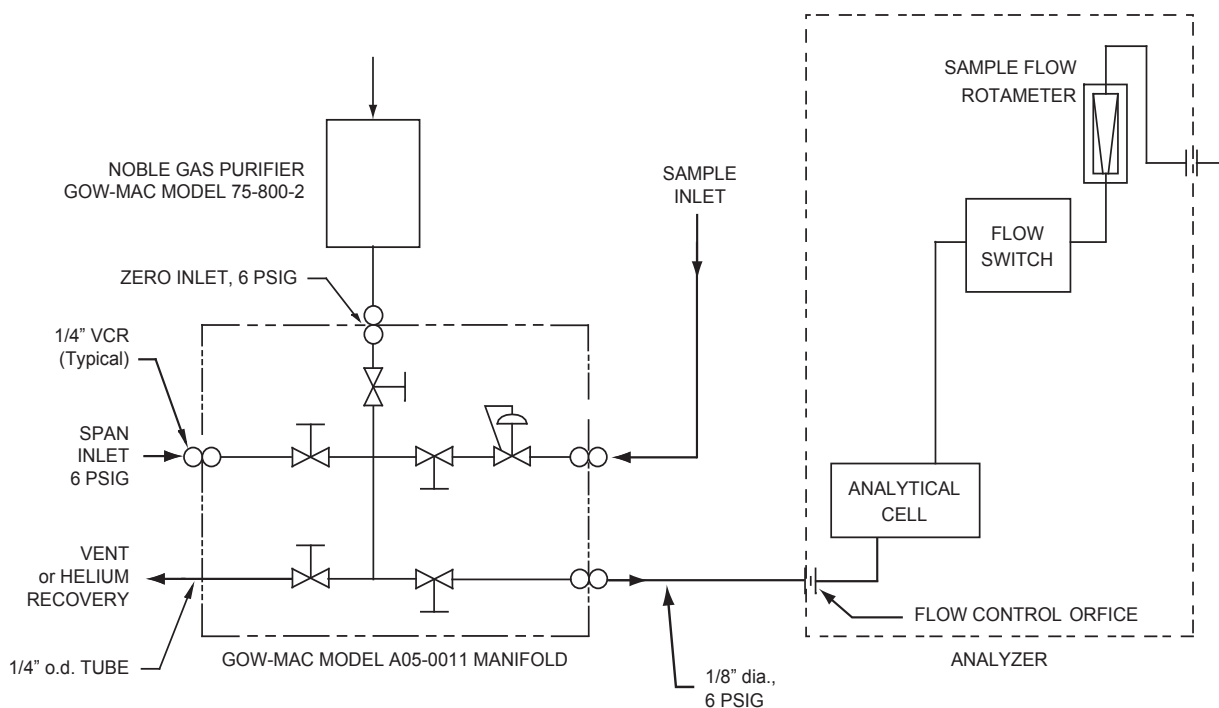

Figure 3-2: Typical Sample Manifold System for the Series 1300
The sample manifold system shown in Figure 3-2 allows you to switch the Series 1300 between zero or span calibrating gases and the plant gas streams quickly and efficiently without disconnecting the analyzer and introducing air in the system.
The following procedure can be used with a GOW-MAC manifold Model A05-0011, sold separately and shown in Figure 3-2:
4. Control and monitor the flow of sample or purge helium at the VENT or HELIUM RECOVERY tube stub (refer to Figure 3-2) using a rotameter with valve (not shown).